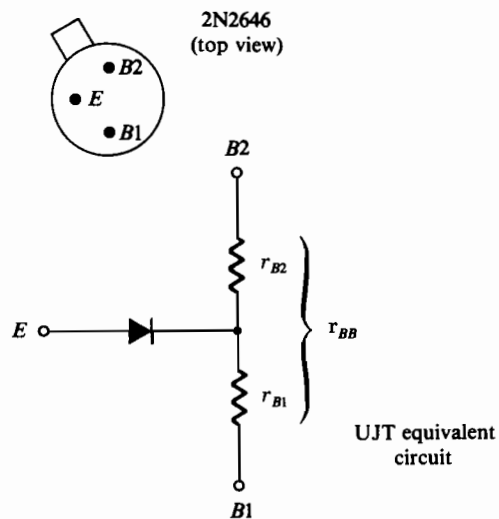

FIGURE 29-1 Pin diagram and diode junction representation of 2N2646 UJT.
2. Using a 2N2646 UJT, whose pin diagram and diode junction representation are shown in Figure 29-1, connect the ohmmeter's positive lead to the transistor's base 1 ($B1$) lead while the ohmmeter's negative lead is connected to the base 2 ($B2$) lead. Measure the resistance and record this value in Table 29-1.